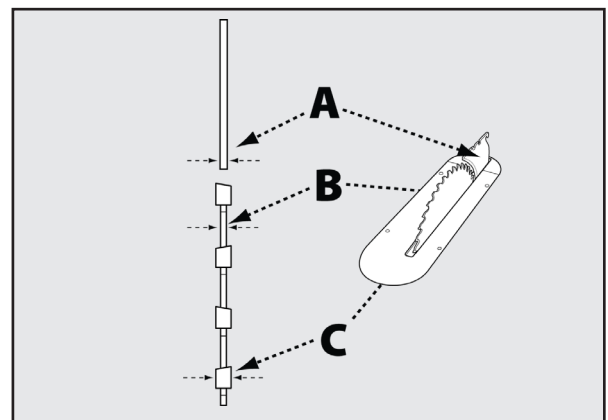

FIGURE 22
NOTE: Safety devices, blade guard assembly and anti-kickback assembly have been removed in Figure 22 in order to show the location of specific features. When operating the saw, these safety devices should be in place and working properly.
The riving knife thickness (A) must be greater than the blade body or plate thickness (B) and less than the kerf or cutting width (C) as shown in Figure 22. The riving knife provided with this saw is 2.2mm thick and may be used only with a 10-inch (254mm) blade with 0.102-inch (2.6mm) minimum kerf width and 0.073-inch (1.8mm) maximum body thickness. Do not attempt to use this riving knife with blades that are not within these dimensions.